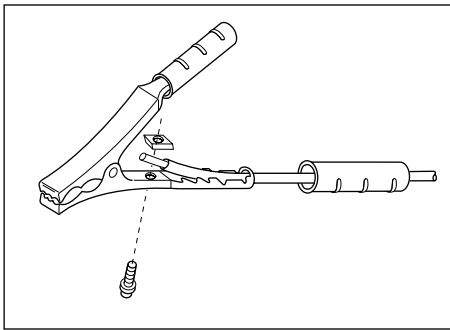

Figure 3 - Work Clamp Assembly
2. Insert cord (labeled work on the front panel of the welder) through clamp handle and slide bare wire under the clamp block. Tighten hex bolt making sure bare wire is clamped securely (Figure 3).